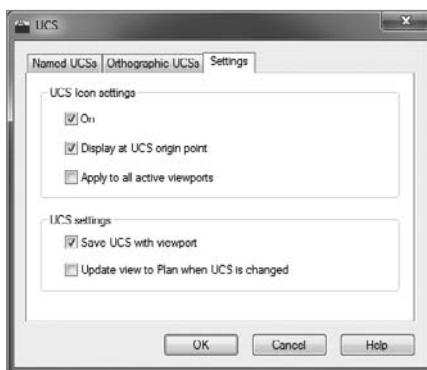

FIGURE 3.6 Verifying the UCS icon visibility
2. In the UCS Icon Settings area, verify the On option is checked, as shown in Figure 3.6, and then click OK. If you had wanted to turn the UCS icon off, you would have unchecked the On option, and the UCS icon would have disappeared until this setting was changed back to On.